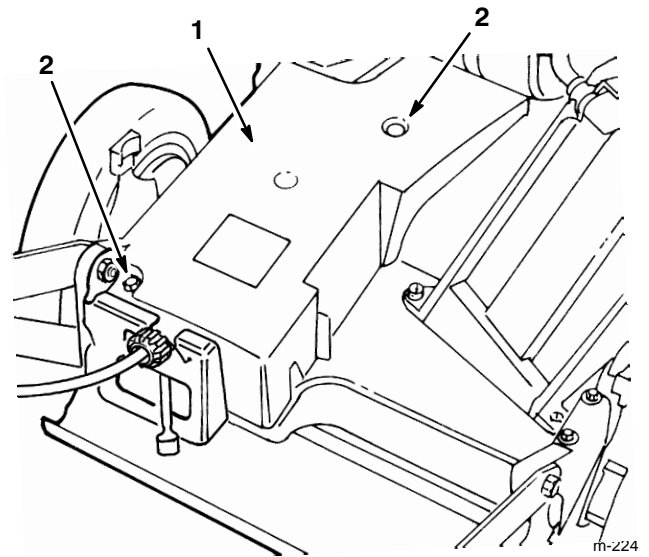

Figure 3
1. Remove (2) self-tapping screws securing belt cover to deck (Fig. 3). Set cover and fasteners aside for reinstallation.